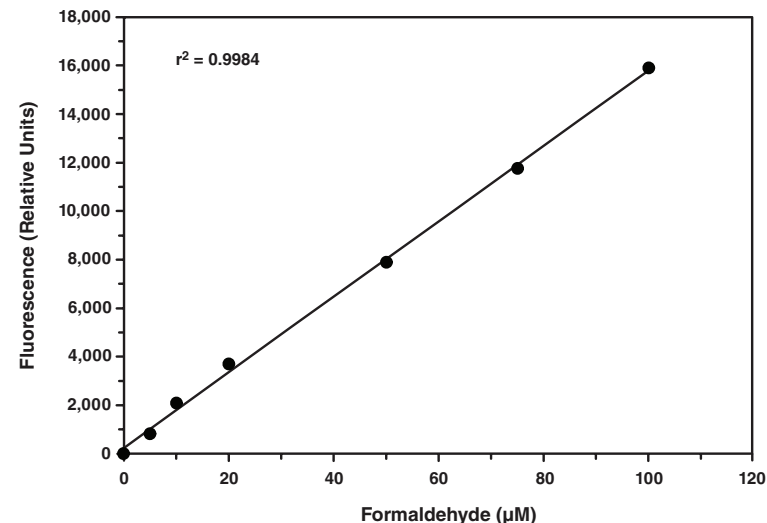

Figure 3. Typical formaldehyde standard curve
3. Determine the average fluorescence of the standards. Subtract the fluorescence value of the standard A from itself and all other standards. This is the corrected fluorescence (CF).
4. Plot the corrected fluorescence values (from step 3 above) of each standard as a function of the final concentration of formaldehyde from Table 1. See Figure 3, on page 15, for a typical standard curve. (Do not use the curve on page 15 for analysis of your samples.)